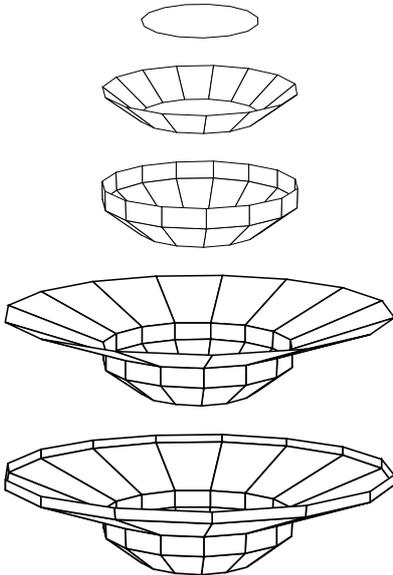

Figure 3: Single section extrusion
- ◆ Creating directly with the mouse each section of the object (Figure 3).